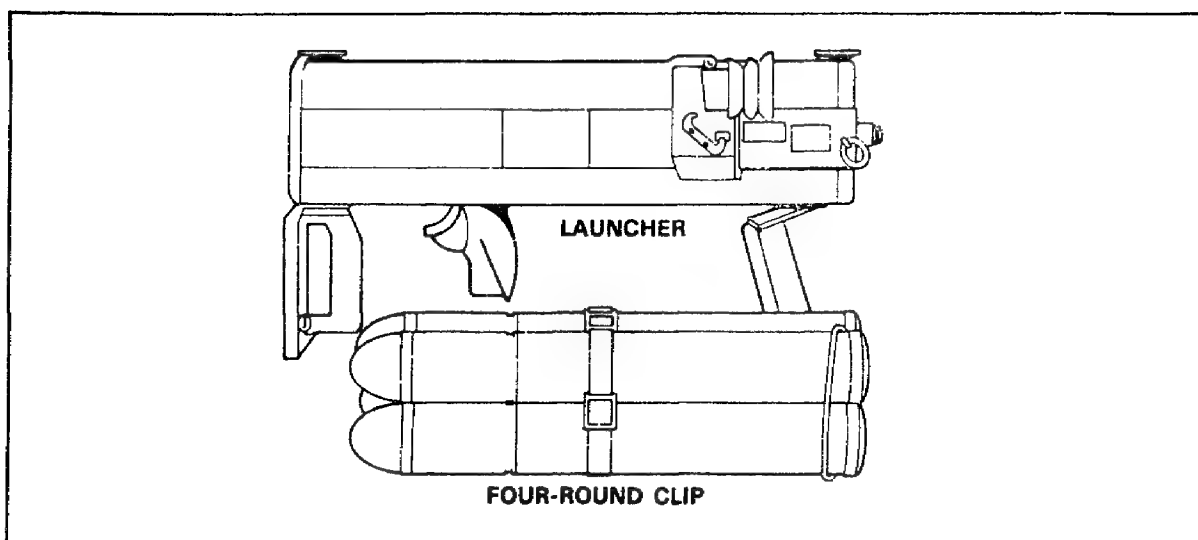

Figure 40. 66mm Incendiary Rocket System.
**66mm Incendiary Rocket, M74.** The 66mm incendiary rocket is used against combustible targets. The complete system consists of a four-tube reusable launcher and four rockets in a four-round clip. See Figure 40.